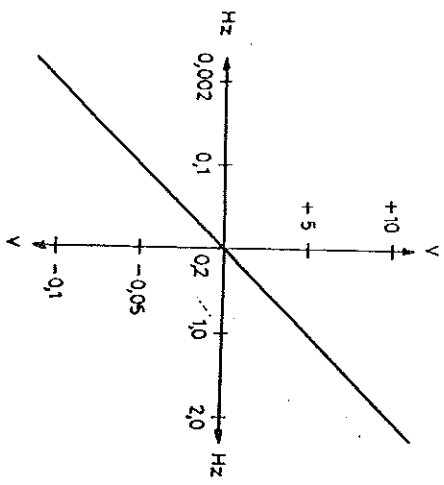

FIG. 1 VCO CHARACTERISTIC
2.12 VOLTAGE CONTROL OF FREQUENCY. See Fig. 1.
With the DC input equal to zero, the output frequency will be approximately 2KHz. Increasing the DC input to +10V will increase the output frequency to approx. 200KHz. Decreasing the DC input to 0.1V will decrease the output frequency to approx. 20Hz. For the graph of frequency versus DC input see Fig. 1.